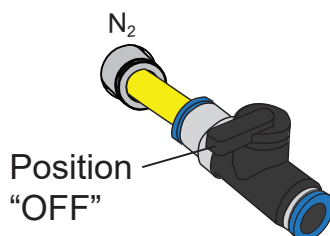

Figure 15: Close the N2 port of the Gas Mixer with the dead end tubing if not needed (CO2/O2 version only).
CO2/O2 version: In case the N2 input is not needed (CO2/O2 version only), close the N2 input port using the provided dead-end tubing (Figure 15).
**Mode** Each channel of the Gas Mixer can be set to an “On” or “Off” state. For standard operation all channels must be turned on. Only if you use the CO2/O2 version without nitrogen (N2) connection, it is recommended to turn the O2 channel off. In this case make sure that the dead-end tubing is attached to the N2 port and closed (see Figure 15).